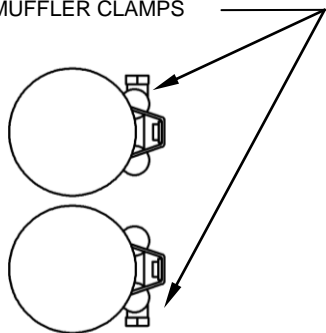
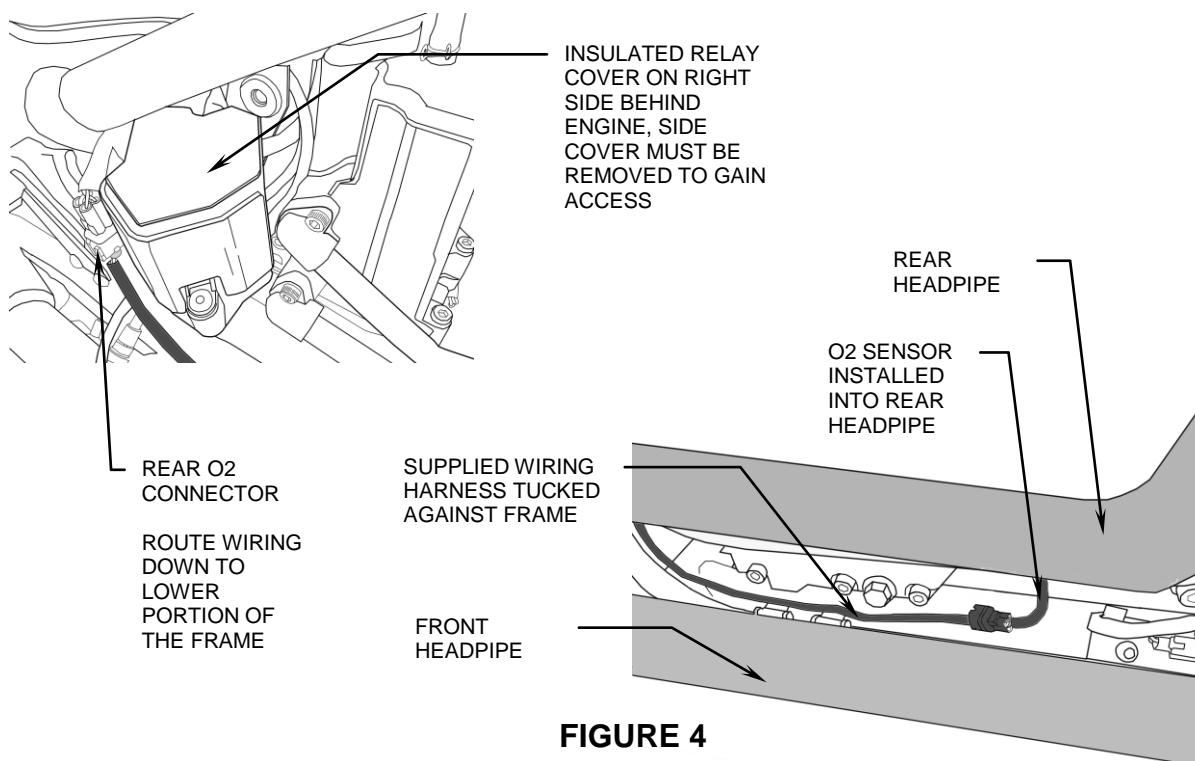

FIGURE 3A
FIGURE 4
7. Remove the muffler assembly from the box and slide two supplied 27-61MSC clamps onto the slotted muffler inlet tubes. Refer to Figure 3A for alignment of clamps.
8. Slide the muffler assembly onto the headpipes by tapping on the headpipes with your hand as you push the muffler forward making sure the assembly slides as far forward as possible. Secure the muffler assembly to the exhaust mount bracket using the (2) supplied 5/16-18 bolts but **DO NOT TIGHTEN**.
10. Plug front O₂ sensor connector into stock location. Plug rear O₂ sensor connector into the supplied O₂ sensor harness extension and plug the opposite end into the stock harness location. Make sure the extension harness is tucked inside frame and away from exhaust pipe. Refer to Figure 4.
12. To install the front heatshield, first slide the rear portion of the heatshield over the muffler, continue to slowly slide it forward pushing the front of the shield gently into place between the frame and motor (Hint: Spread the hose clamps apart slightly to make it easier to slide them over the muffler assembly and headpipes). Make sure the muffler clamps don't interfere with the heatshields and are aligned as shown in Figure 3A. Snug the heatshield clamps but **DO NOT TIGHTEN**.